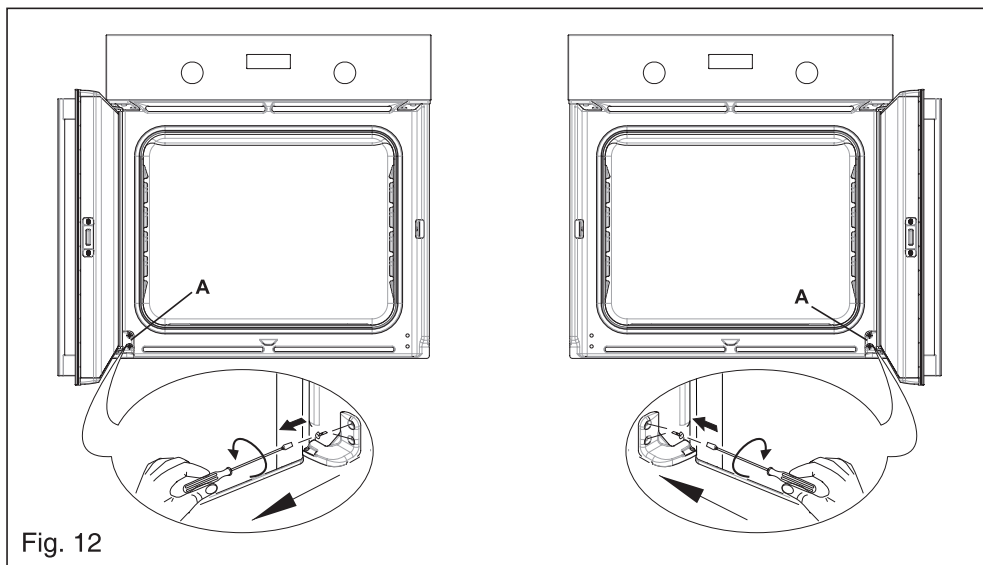

Fig. 12
- 1) Open the oven door and undo the two screws in the block A (see figure 12). (N.B.: when block A is unscrewed, the bottom of